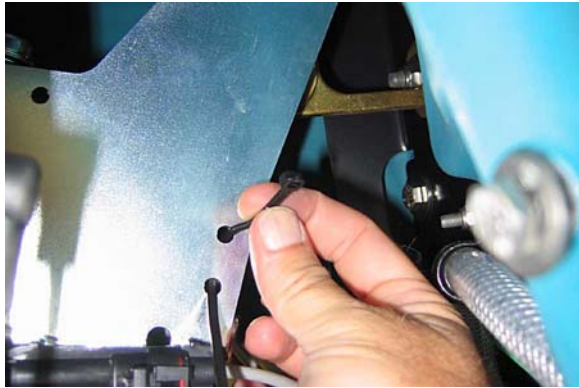

Fig. 5
5. Locate the pre-installed wire ties on the actuator bracket (Figure 5). There should be one on each side. Install wire ties if not pre-installed.